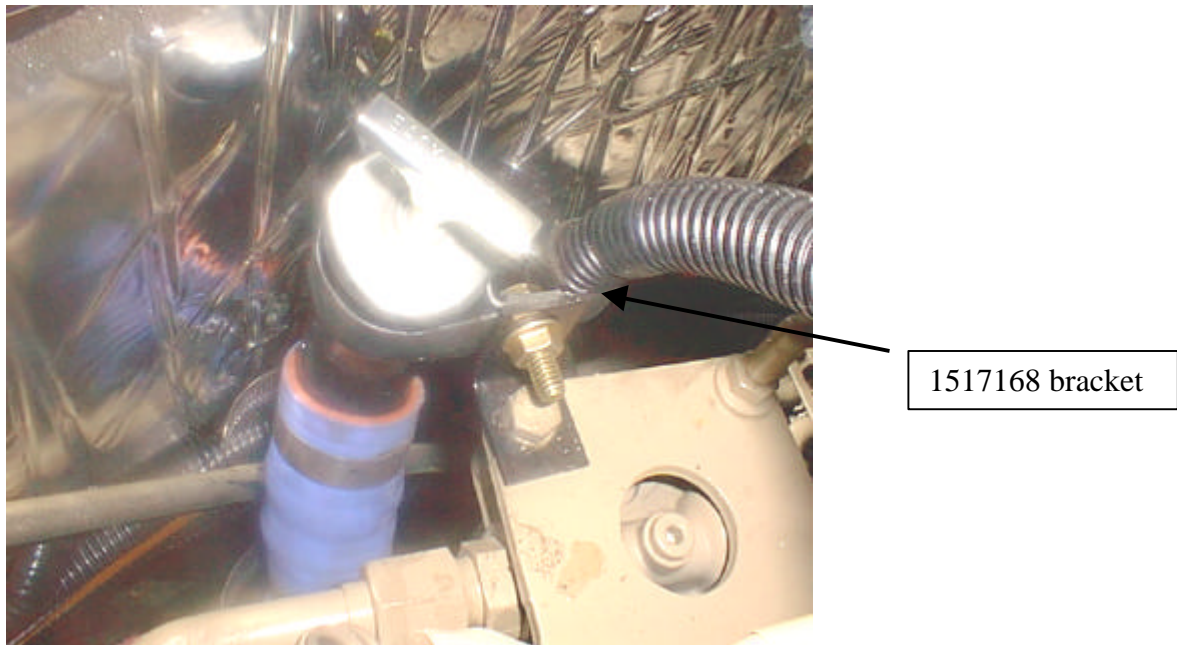

FIGURE 2
7. Add a second clamp (See Figure 2) by: